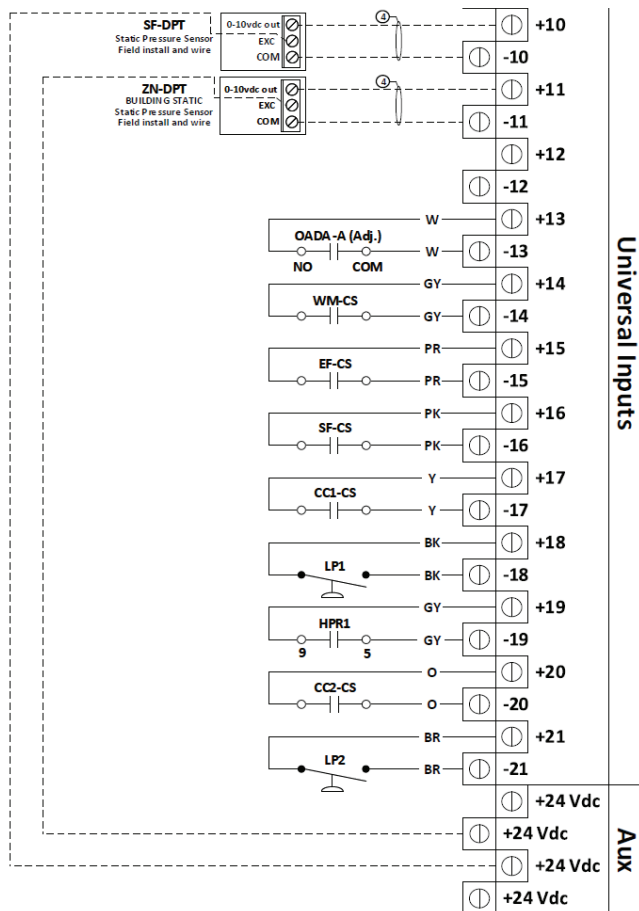

Fig. 75 — DPT Wiring
2. Connect the DPT wiring to the controller. See Fig. 75.